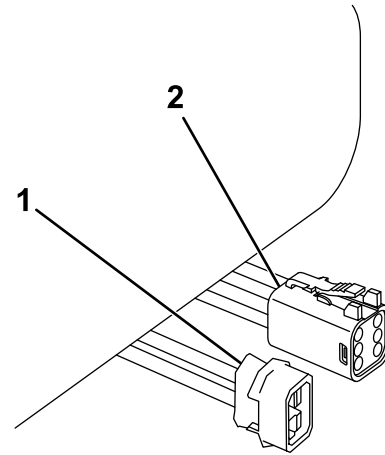

Figure 17
17. Mount the plow connector and the black and red power/ground connector to the lower part of the rear bumper using a cable tie (Figure 17).